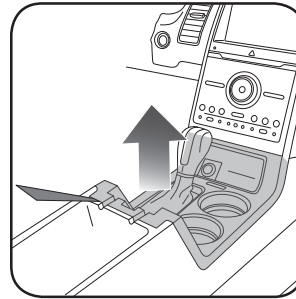

Fig. 1.1
1. Unclip and remove the shifter bezel (Fig. 1.1)